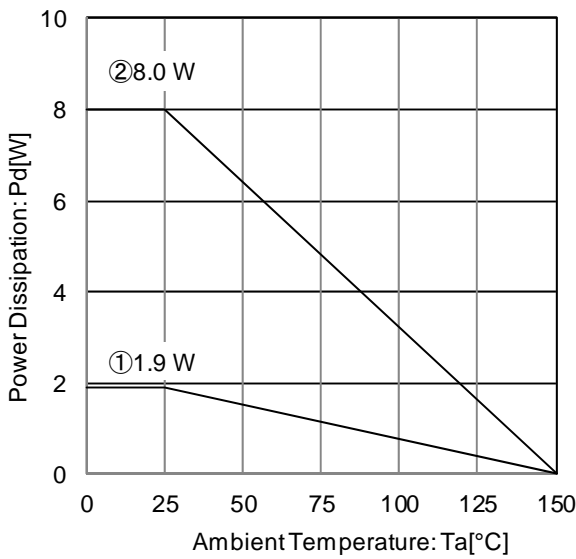

Figure 27. Package Data (TO263-3F)
At $T_a=125^\circ\text{C}$ with Figure 27 ② condition, the calculation shows that ca 156mA of output current is possible at 10.2V potential difference across input and output.
At $T_a=125^\circ\text{C}$ with Figure 27 ② condition, the calculation shows that ca 187mA of output current is possible at 8.5V potential difference across input and output.